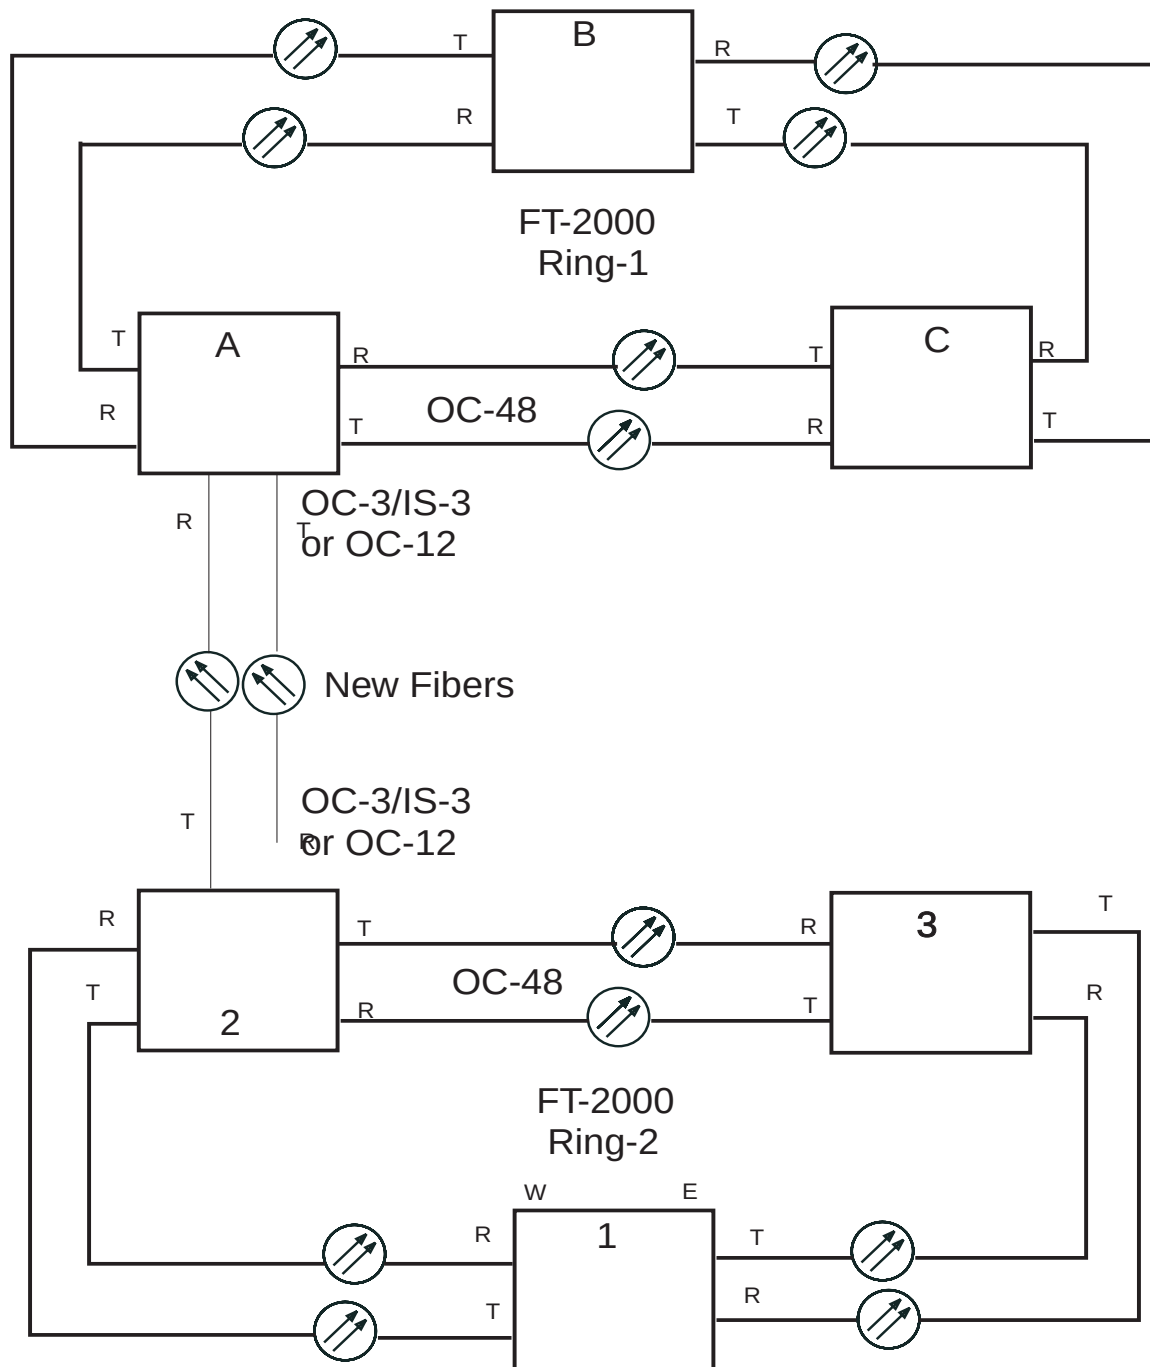

Figure 3 – Example of Connecting Second Fiber for LBO Measurement
8. Instruct the installation/maintenance personnel, at ring-1 and node A, to connect the new transmit fiber. Refer to the example in Figure 3.	—